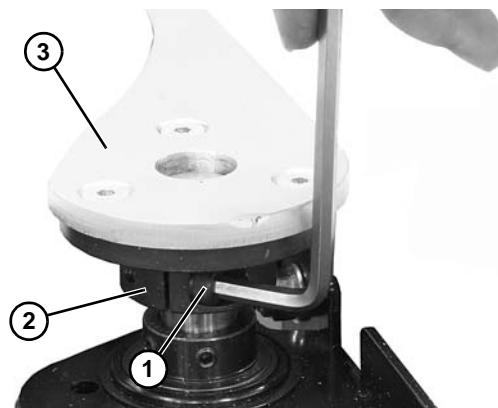

Figure 24
6. To aid in the installation of the diverter assembly, loosen socket head screw (**Figure 24, item 1**) on flange collar (**Figure 24, item 2**). Remove diverter arm (**Figure 24, item 3**).
9. Install diverter arm (**Figure 24, item 3**).